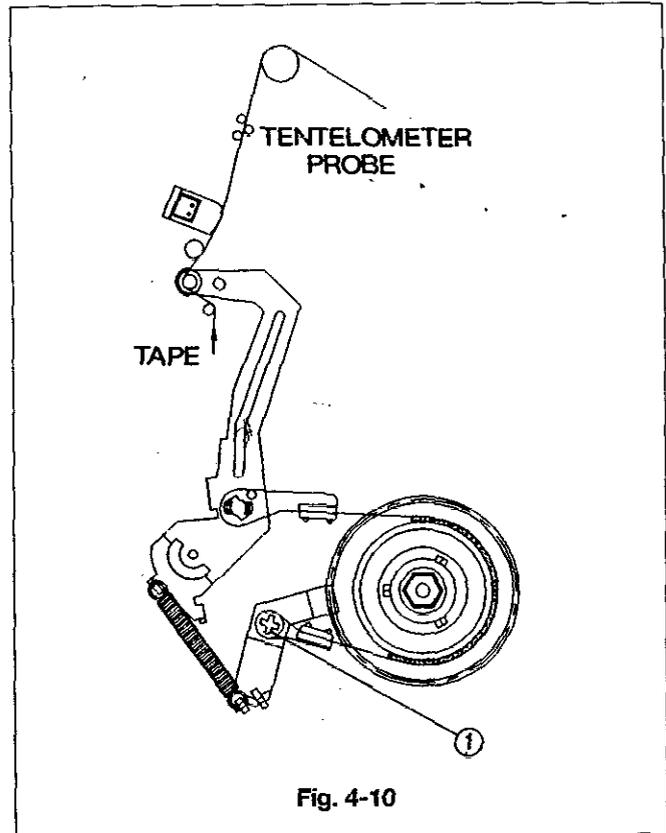

Fig. 4-10
- 2) Set the Tentelometer as shown in Fig. 4-10 and confirm the scale (SPEC: 20~27g).